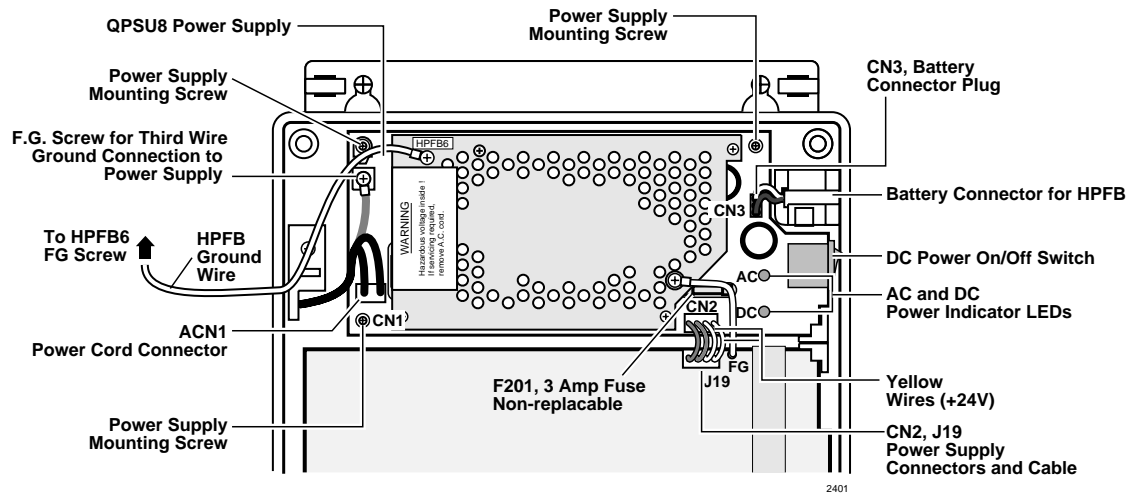

Figure 1-8 DK14 Power Supply
1. Make sure that the power supply switch is OFF and that the AC power cable is not plugged into an outlet. Confirm that green AC LED is not lit. See Figure 1-8.
1. Set the power supply in its proper place in the KSU. See Figure 1-8.